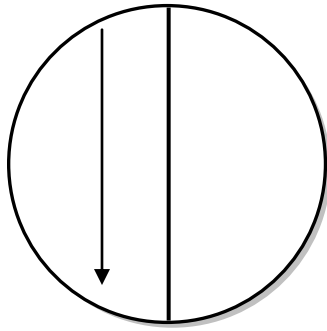
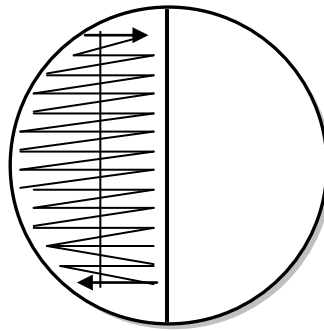
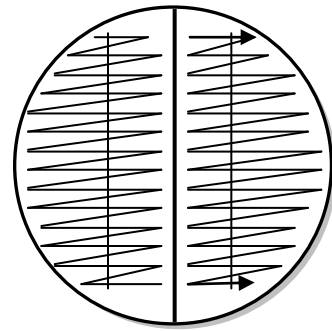

Fig. 1
Fig. 2
Fig. 3
2. To inoculate a urine culture, use the appropriate calibrated inoculating loop. Mix the specimen prior to sampling. Dip the loop straight into the urine. Make one streak down the blood agar side of the plate (see Fig. 1), and proceed to cross streak making very close lines (see Fig. 2). Using the same loop, dip straight into the urine again, and inoculate and streak the CHROMagar side of the biplate (Fig. 3). If necessary, a smear can be made last using the 1:100 calibrated loop.